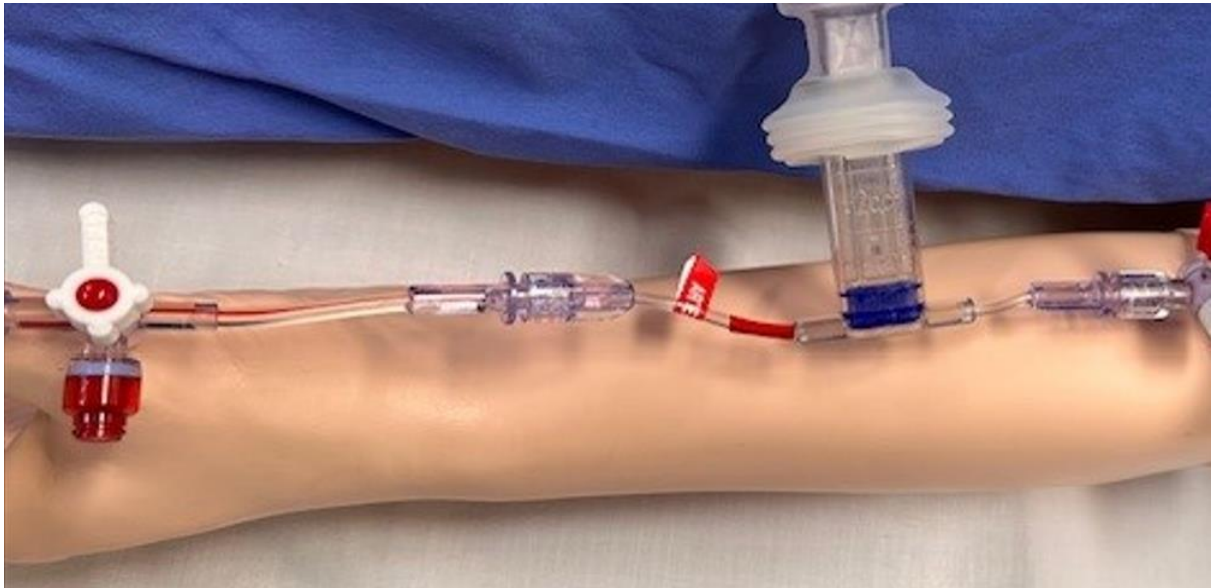

Figure 12.
8. After returning the blood, keep the three-way tap in the opposite direction to the sample port. Turn until it is in the six o'clock position. Then only the three-way sampling port will get flushed by saline and clear any blood from the sampling port. (See Figure 12 below).